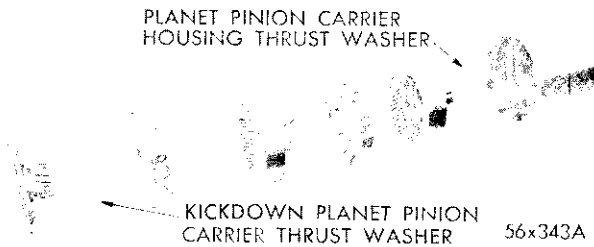

Fig. 22—Transmission Gear Train (Exploded View)
g. Removal and Inspection of Planet Carriers (Refer to Fig. 22)